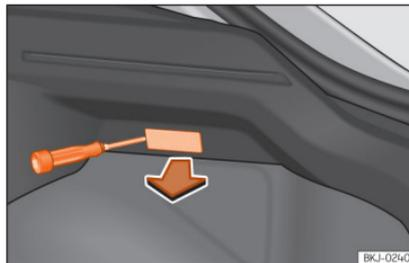

Fig. 57 Boot light.
- Extract the bulb by pressing on its inside edge using the flat side of a screwdriver »» **Fig. 57**.